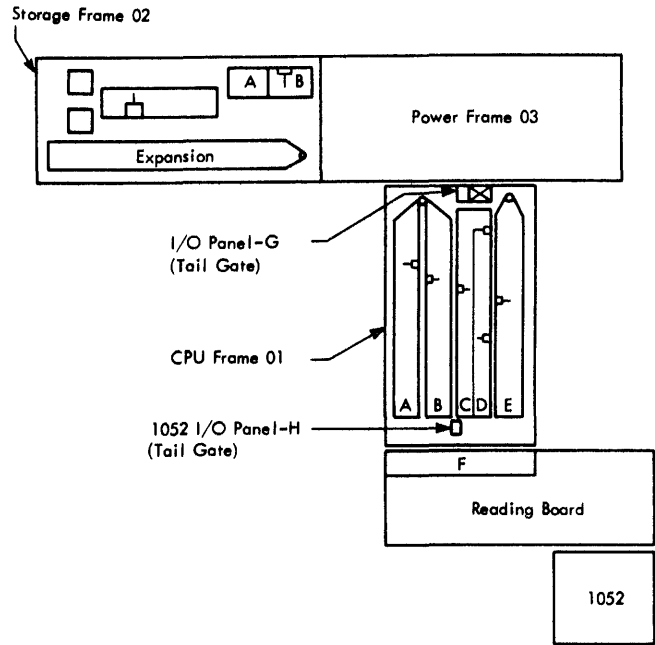

FIGURE 135. IBM 2050 FRAME AND GATE LAYOUT
The CPU frame contains the CPU logic, the channels, the capacitor read only storage, and the local storage. The system control panel is mounted on one end of this frame. Within the CPU frame are three hinged gates (A, B, and E on Figure 135). Each hinged gate holds twenty printed circuit boards. One fixed gate (C) with a hinged section (D) contains the capacitor read only storage (ROS) and twelve printed circuit boards.